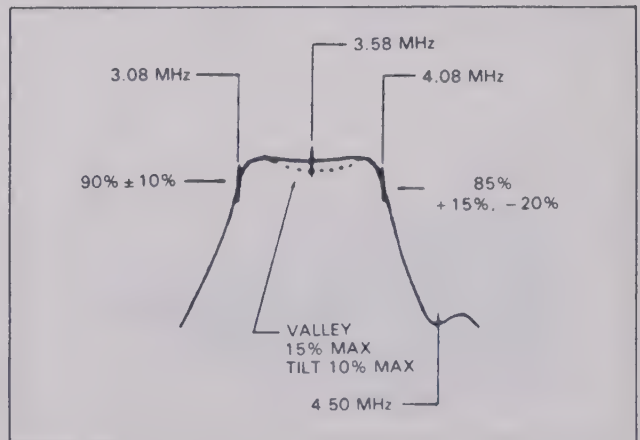

Fig. 24. Frequency Response Measurement.
Frequency Response Measurements (Refer to Fig. 24)
1. Connect the audio or rf output of the sweep generator to the input of the circuit under test and the output of the test circuit to channel 1 (vertical axis) of the oscilloscope. A demodulator probe will give a "text book" frequency response display as shown in Fig. 24, but a stand-